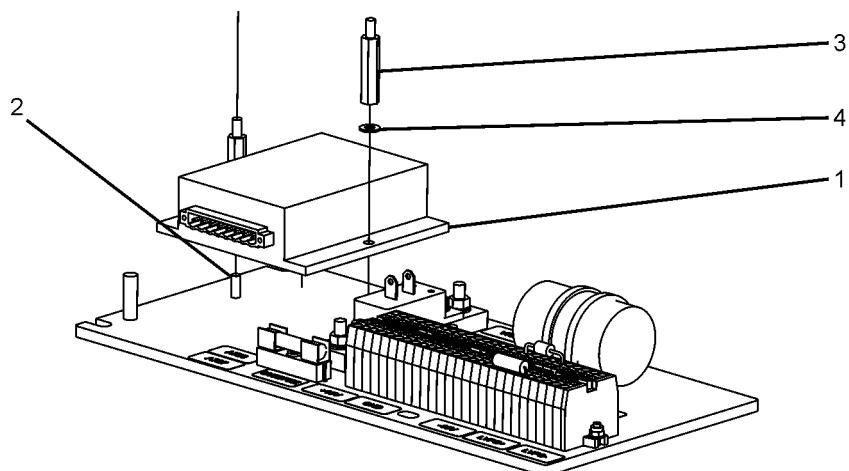

Figure 5-47: A720 Anchor Points
7. Detach A720 (see Figure 5-47). A720 (1) is mounted directly to the assembly base plate (2) at two points and is held in place with M4 standoff (3) and M4 washer (4) sets. Remove the fasteners to detach the A720.
4. Attach A720 (see Figure 5-47). A720 (1) is mounted directly to the assembly base plate (2) at two points and is held in place with M4 standoff (3) and M4 washer (4) sets. Affix the fasteners and tighten to 22 lb-in (2.5 Nm).